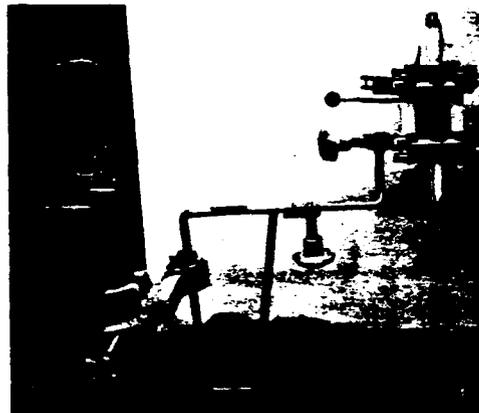

FIG. 14 TOOL MOUNTING ARRANGEMENT (PAR. 4.21)
4.21 Set up the R4861 tool on a rolling ladder, or other stable, sturdy support which may be convenient for the particular level of operation and for the installer. R-4773 DET 1, ^{710A2} universal vise clamp, R-4861 DET 3 (710A2) Rod Clamp, and R-4861 DET2 support Rod are used for this purpose. See Fig. 14 for set up of hardware.